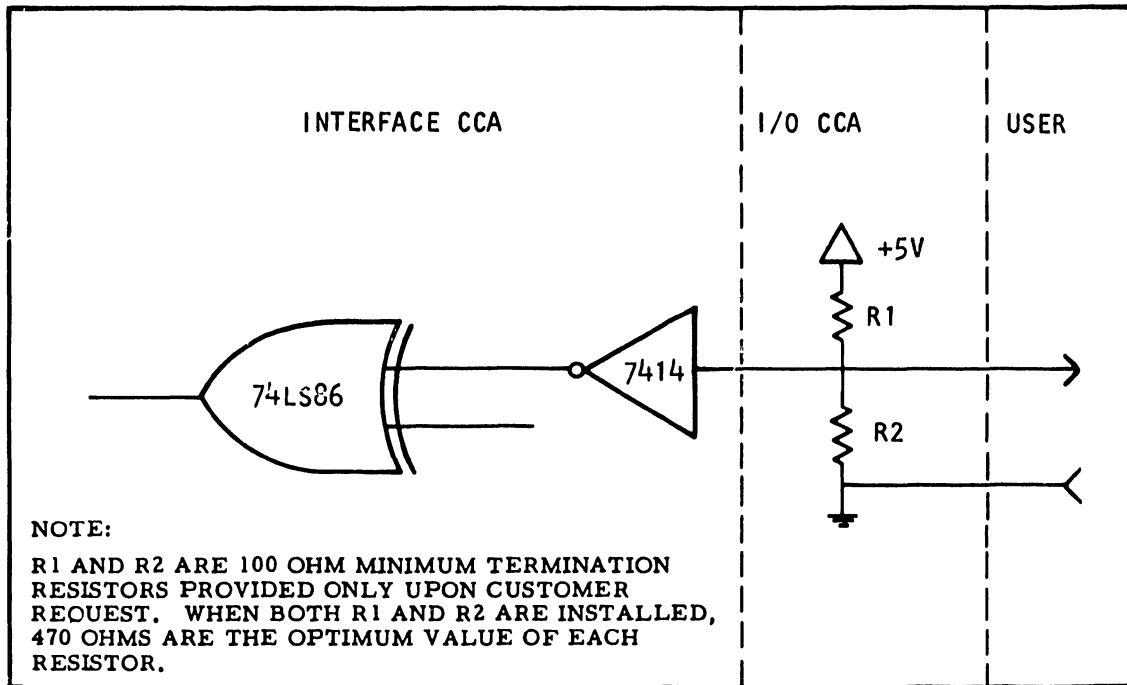

Figure 2-12. Typical Short Line Interface Receiver Circuit
**Figures 2-12 and 2-13** illustrate the typical receiver and driver circuits formed by the I/O CCA and the Interface CCA.